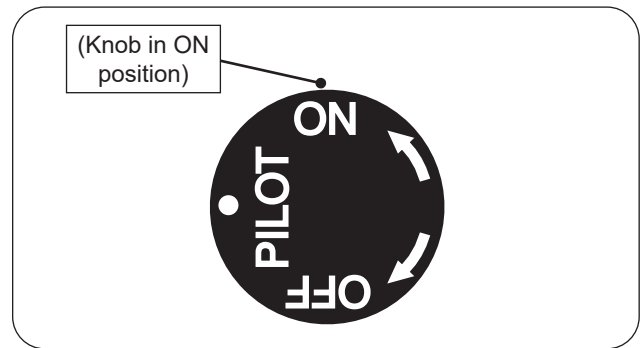

Fig. 24-1 Manual lighting
1. Ensure the pilot is burning. Turn the control knob counterclockwise ↺ to **ON** to ignite the burner (see Fig. 24-1). The valve will open and the burner will light.